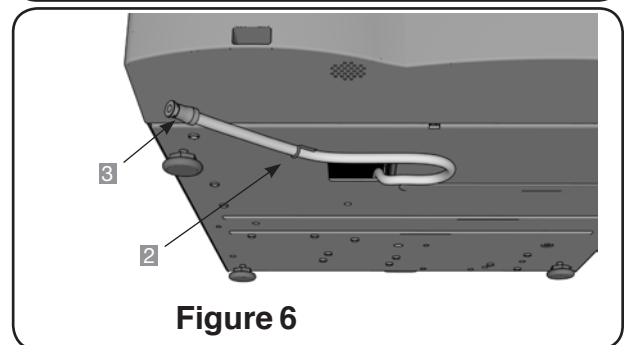

Figure 6
To prime the STAT/M pump, follow these steps (see Figure 6):
2. Using the drain tube (see Section Priming the Pump, Figure 6) empty the contents of the reservoir into the water container.